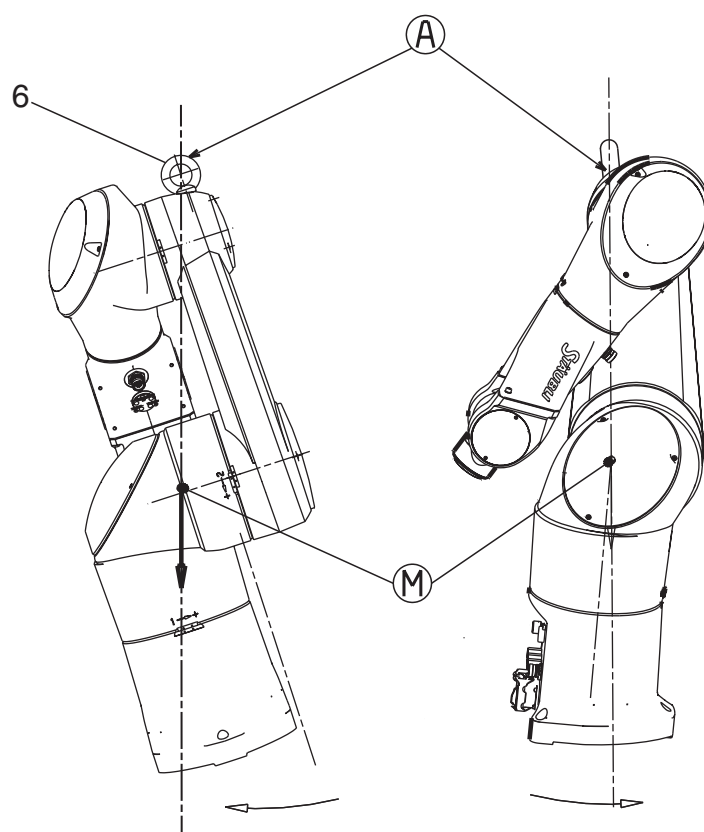

Figure 3.3
- Pass the hook of the hoist through the hoisting ring (6) and hold slightly tensioned to stop the arm from tipping (figure 3.3).
- Remove the 3 M12 (3) bolts from the arm.